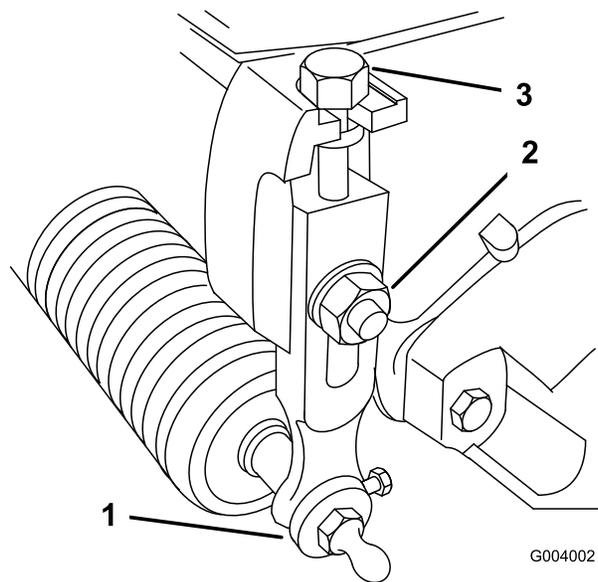

Figure 60
1. Loosen locknuts securing height-of-cut arms to cutting unit side plates (Figure 60).